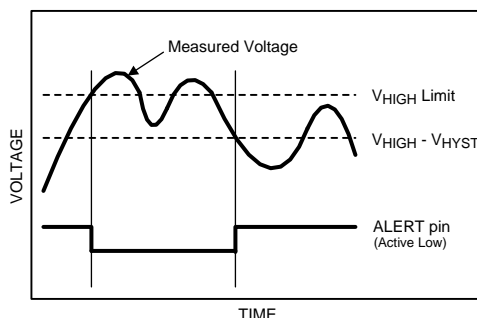

Figure 9. Alert condition cleared when measured voltage crosses $V_{\text{HIGH}} - V_{\text{HYST}}$
The ALERT function is an "out-of-range" indicator. At the end of every conversion, the measured voltage is compared to the values in the V_{HIGH} and V_{LOW} registers. If the measured voltage exceeds the value stored in V_{HIGH} or falls below the value stored in V_{LOW} , an alert condition occurs. The Alert condition is indicated in up to three places. First, the alert condition always causes either or both of the alert flags in the Alert Status register to go high. If the measured voltage exceeds the V_{HIGH} limit, the Over Range Alert Flag is set. If the measured voltage falls below the V_{LOW} limit, the Under Range Alert Flag is set. Second, if the Alert Flag Enable bit is set in the Configuration register, the alert condition also sets the MSB of the Conversion Result register. Third, if the Alert Pin Enable bit is set in the Configuration register, the ALERT output becomes active (see Figure 9). The ALERT output (ADC121C021 only) can be configured as an active high or active low output via the Polarity bit in the Configuration register. If the Polarity bit is cleared, the ALERT output is configured as active low. If the Polarity bit is set, the ALERT output is configured as active high.
2. The measured voltage goes below the programmed V_{HIGH} limit minus the programmed V_{HYST} value and the Alert Hold bit is cleared in the Configuration register. (see Figure 9). If the Alert Hold bit is set, the alert condition persists and only clears when a one is written to the Over Range Alert Flag bit.